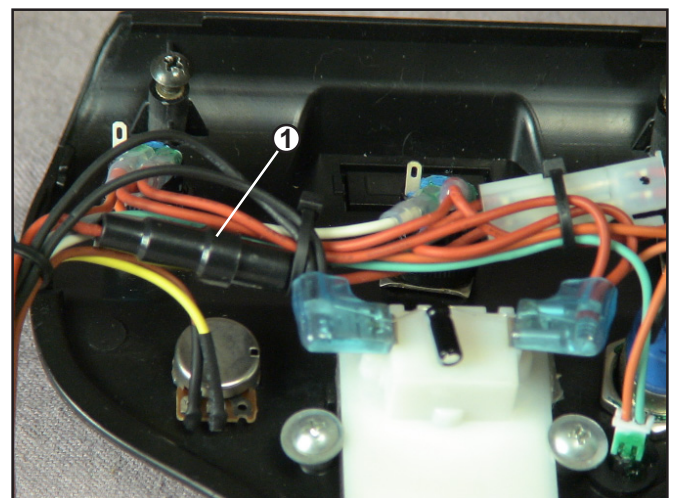

Figure 26. Control Panel Fuse
2. Remove the eight (8) screws that fasten the back shroud to the tiller.
3. Open the fuse holder. (See #1 on figure 26.)